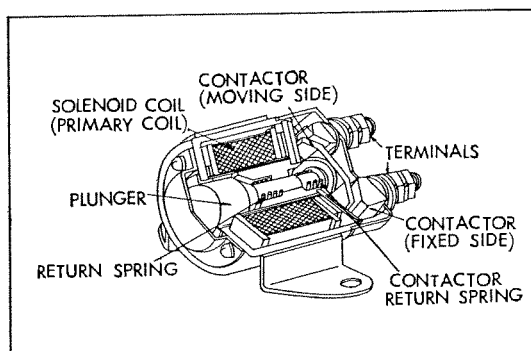

Fig. 5.86 Construction of starter solenoid
- b. The contact point at the tip of the iron core connects the secondary circuit. (Refer to Fig. 5.86)